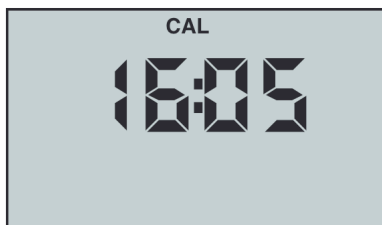

Figure 8
3. Press  to initiate. “CAL” will be displayed along with the time (see Figure 8).